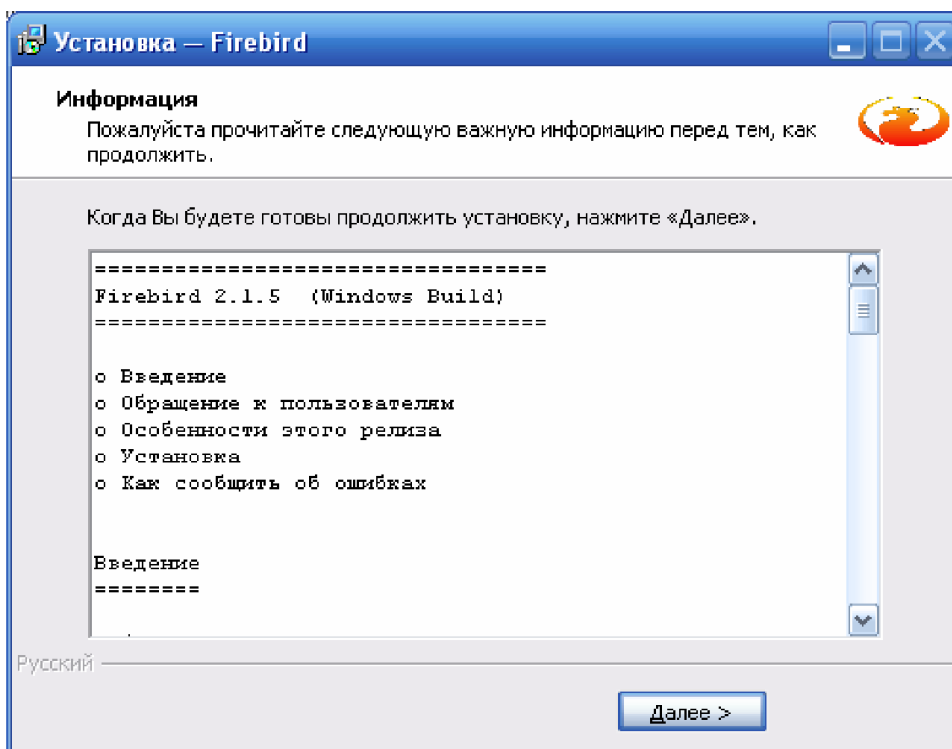

Figure 14. Installing Firebird - step 9.
Step 9 (Figure 14) offers information on how to use Firebird. To continue, click the “Next” button.